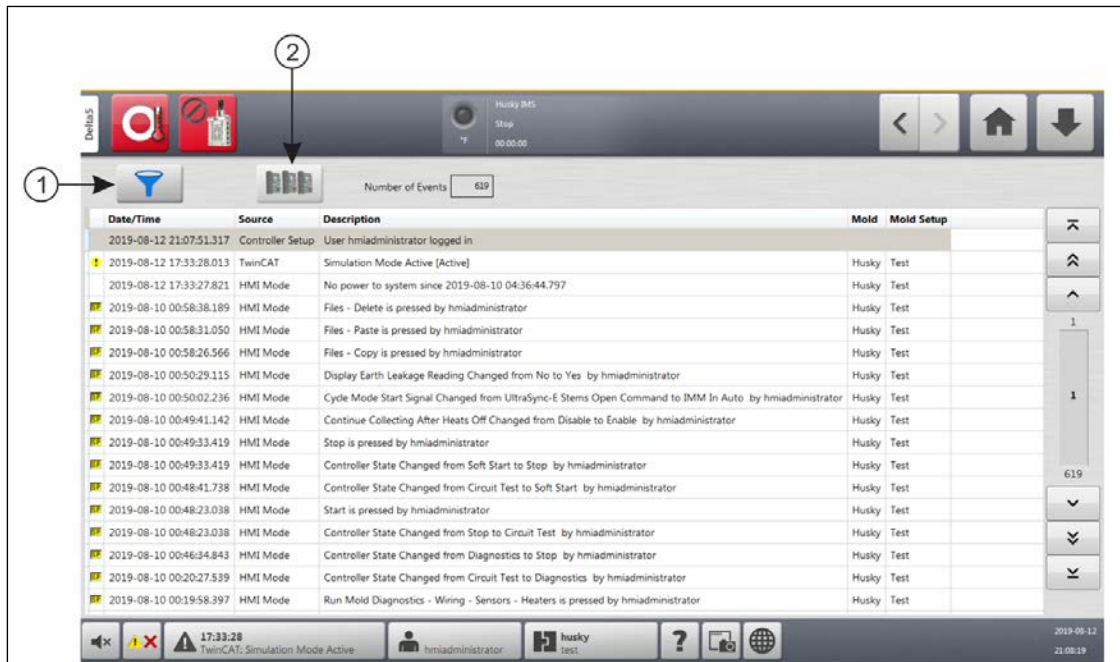

Figure 15-4 Event History Screen
1. On the Event History screen, touch the **Filter** button. Refer to Figure 15-4.